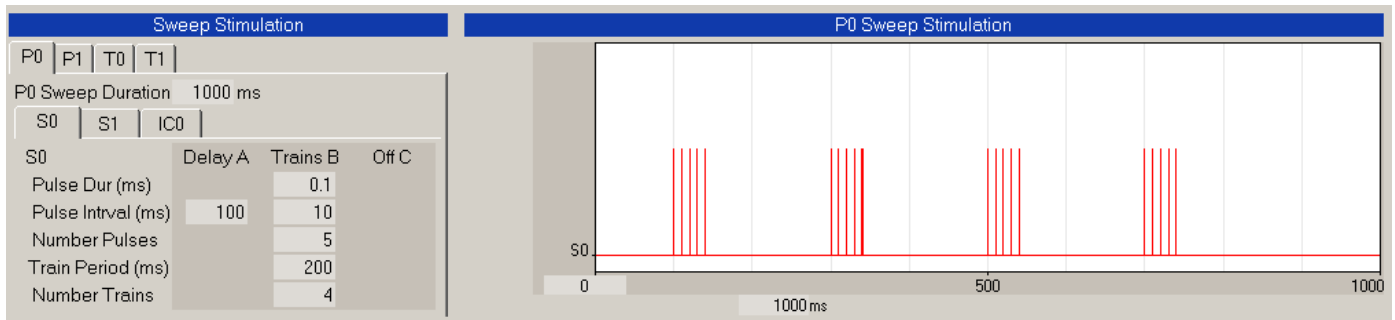

Fig. 4.9.2.2. Theta burst stimulation for LTP induction consisting of repeating trains in a single sweep.
**Primed burst stimulation.** Fig. 4.9.2.3 shows primed burst stimulation capable of inducing LTP. However, since S0 or S1 is capable of producing only pulse, trains, or repeating trains, the version of WinLTP can only produce primed burst stimulation by outputting two extracellular pathways. It could be a single pulse on S1 and a single train on S0, but if S1 is also being used, it has to be a Digital Out pulse (on D2 here) and a single train on S0.